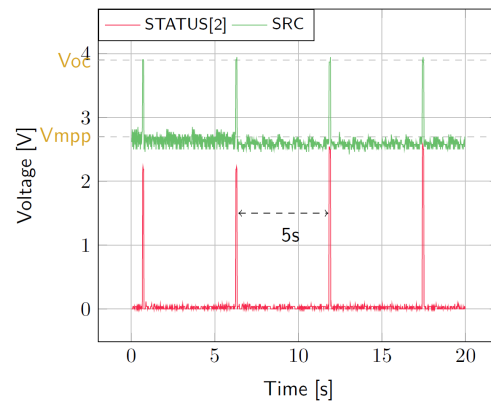

Figure 4: **SRC** and **STATUS[2]** while energy is extracted from **SRC** (**BATT** under V_{OVCH})
- **SRC**: regulated at V_{MPP} , which is a voltage equal to the open-circuit voltage (V_{OC}) multiplied by the MPP ratio defined in Table 4. During the MPP evaluation, the AEM10941 stops pulling current from **SRC** and thus, V_{SRC} rises to V_{OC} (see Figure 4). Note that V_{SRC} must be higher than 380 mV to allow the AEM10941 to coldstart.
- **STATUS[2]**: asserted each time the AEM10941 performs a MPP evaluation (See Figure 4).